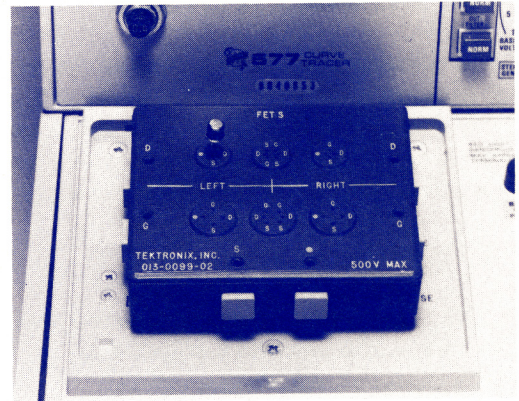

Figure 0-2. Device inserted in socket.
- 5) Insert device – Insert device to be tested in socket. See Figure 0-2. Put UJT emitter in Drain position, base 2 lead in Gate position, base 1 lead in source position. Proceed to selected test.